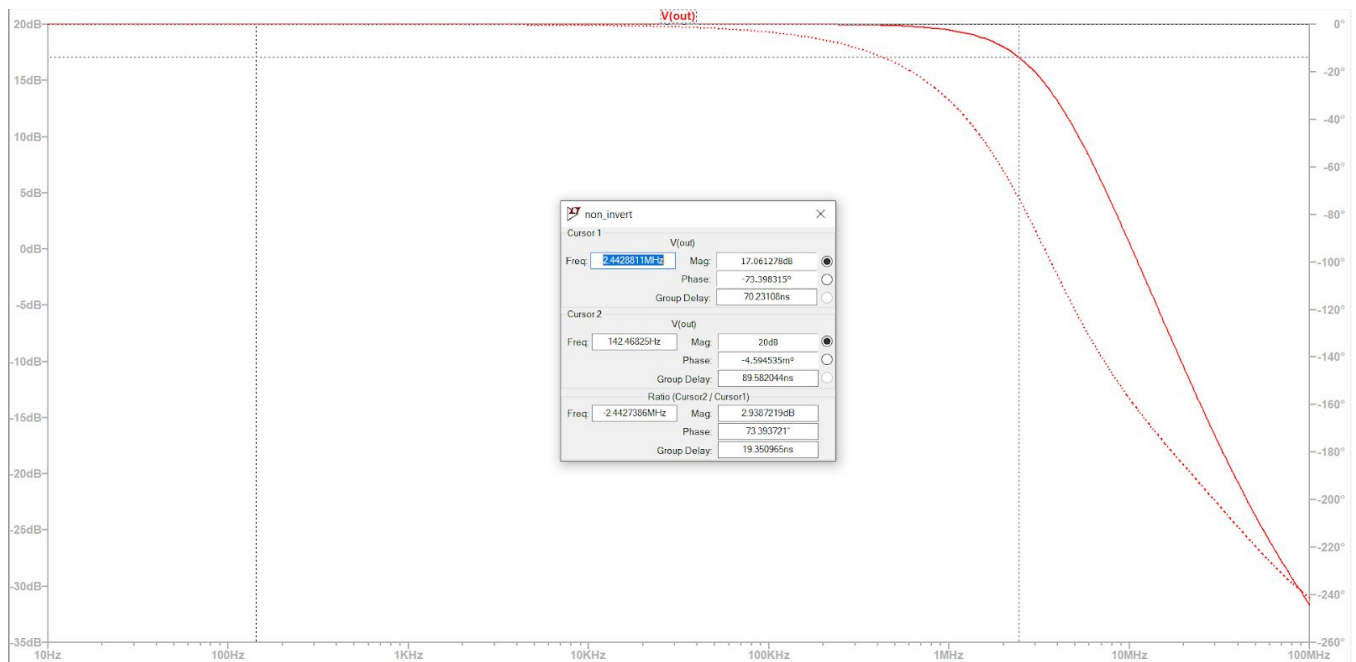

**Fig.10:frequency response of inverting configuration with  $R_2=300\text{ k}$  and  $R_1=1\text{ K}$
6. Fig.10 shows the maximum gain achievable for the circuit as the output got clipped.